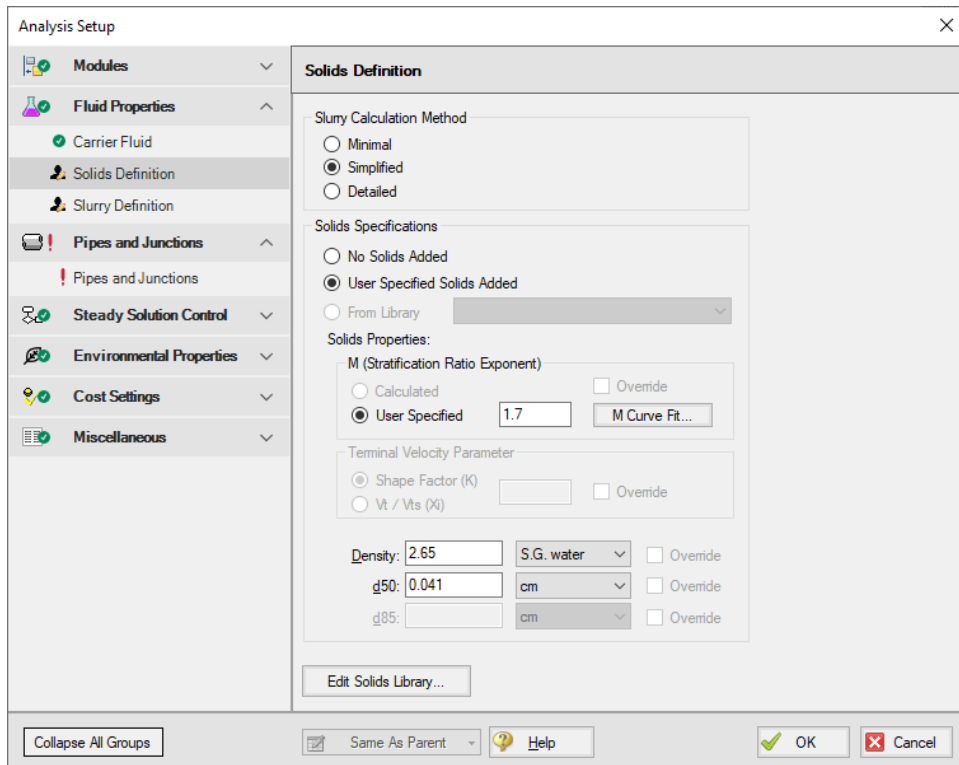

Figure 2: Solids Definition panel in the Fluid Properties group in Analysis Setup with SSL activated
2. Solids Definition - Figure 2